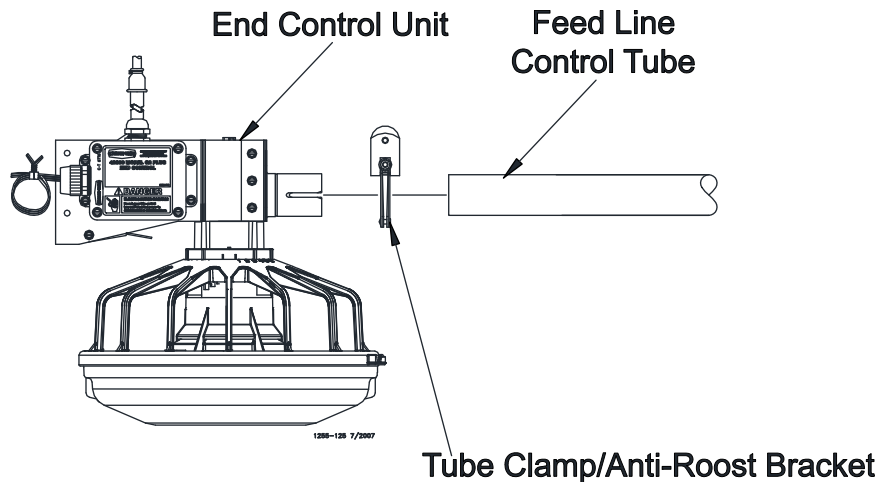

Figure 28.Connecting End Control Unit to the Feed Line Tube
1. Assemble the End Control Unit to the Feeder Line Control Tube using a clamp/anti-roost bracket. See **Figure 28. DO NOT INSTALL THE POWER UNIT AT THIS TIME.**